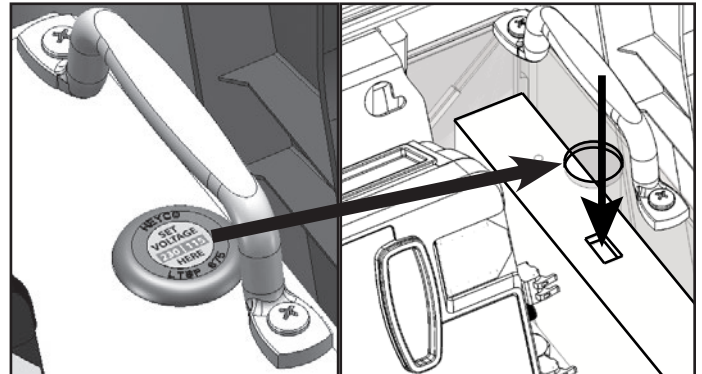

Figure 23. Voltage Switch Access
1. If 208V/230V AC incoming power is used, set the voltage switch on the power supply to the correct setting with a flathead screwdriver before you attach the back cover. (See figure 23 & 24 in Wiring & Power section)